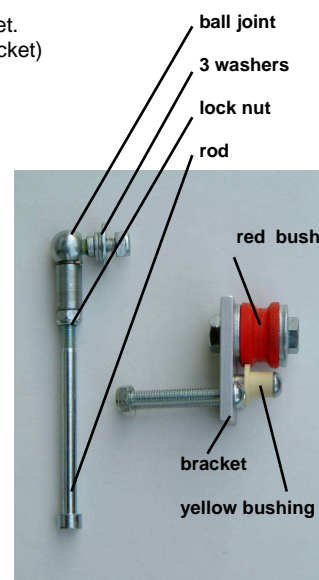

fig. 1
- Push the screws of the brackets (fig. 1) trough axle and swing arm and screw them tight.